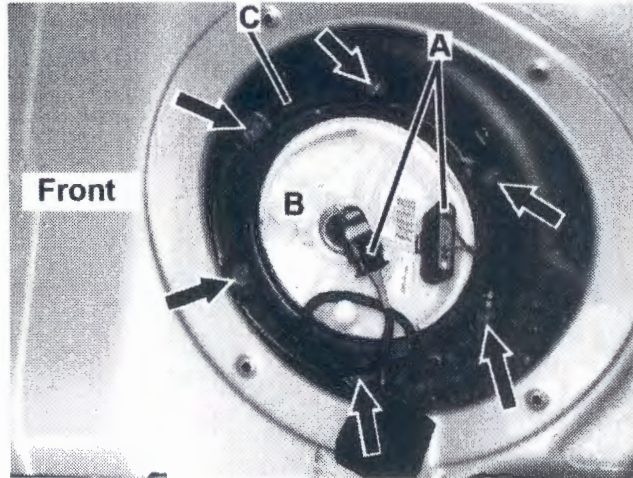

Figure 2
1. Disconnect harness connectors (A, Figure 2) from fuel filter (B)
2. Remove nuts (arrows, Figure 2) securing locking ring (C) to fuel filter (B) then remove locking ring (C).